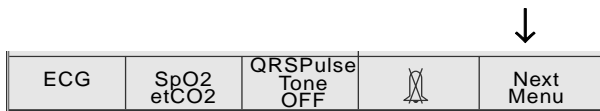

Figure 11-1. Main menu
- In the main menu, select **F5** **Next Menu** (Figure 11-1).